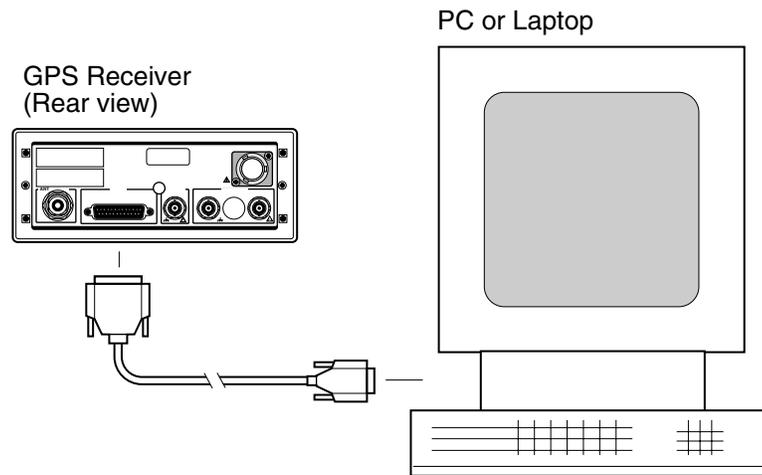

Figure 1-3. Connecting a PC or Terminal to the GPS Receiver
- 1 For the procedures in this chapter, connect the computer to the rear-panel RS232C (**PORT 1**) port using 25-pin male to 9-pin female RS-232 null-modem cable as shown in Figure 1-3.